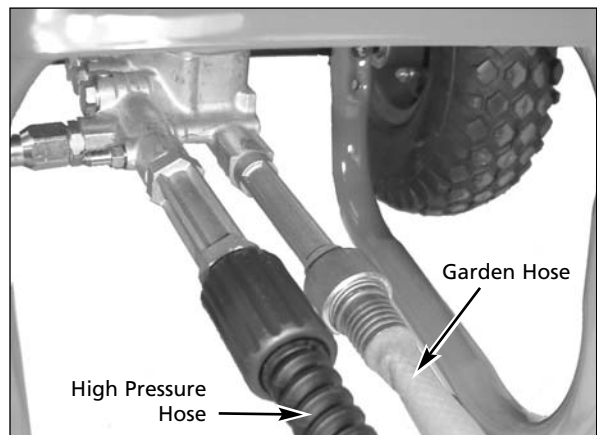

Figure 3 - Secure garden hose
3. Secure garden hose (not included) to the inlet connection on pump (See Figures 3 and 4).